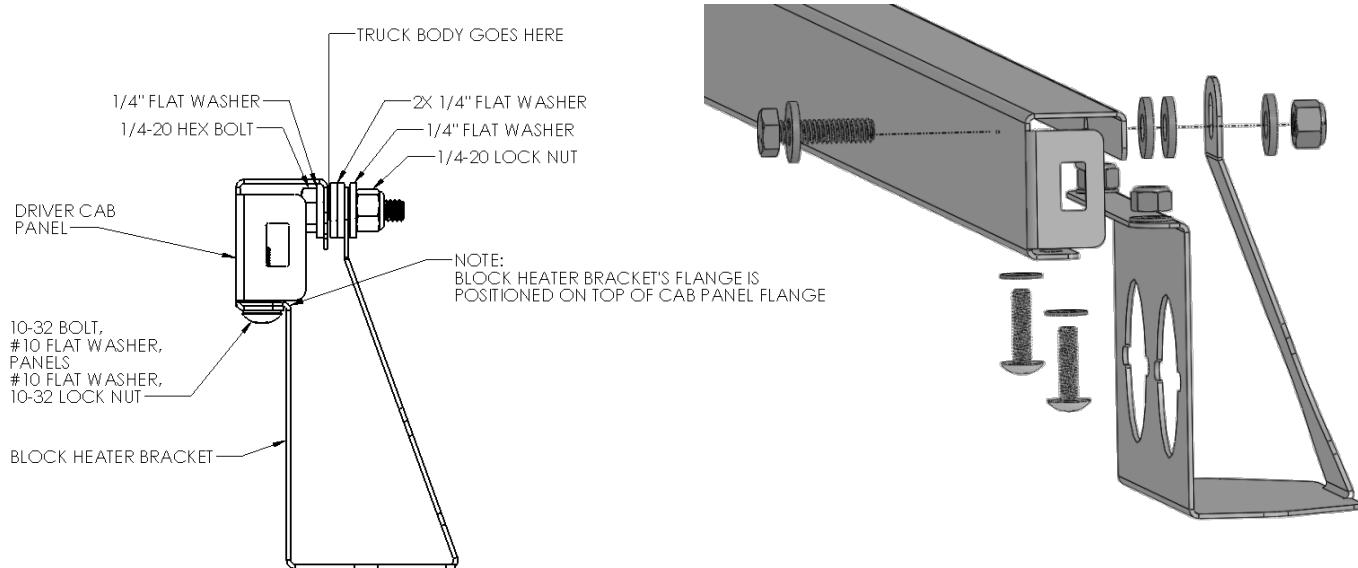

Figure 3
4. Remove Cab Panel and drill the (3) holes with a 9/32" drill bit.
5. Mount Cab Panel using (3) provided 1/4 -20 hex bolts with flat washers & lock nuts.
- a. For driver side, mount Block Heater Bracket assembly with the rear Cab Panel mounting bolt (see Figure 3)